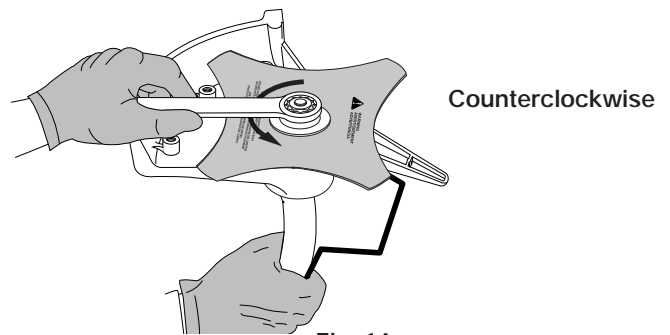

Fig. 14
2. Hold the locking rod in place by grasping it next to the boom of the unit (Fig. 14).
3. While holding the locking rod, loosen the nut on the blade by turning it counterclockwise with a 11/16 inch closed-end or socket wrench (Fig. 14).